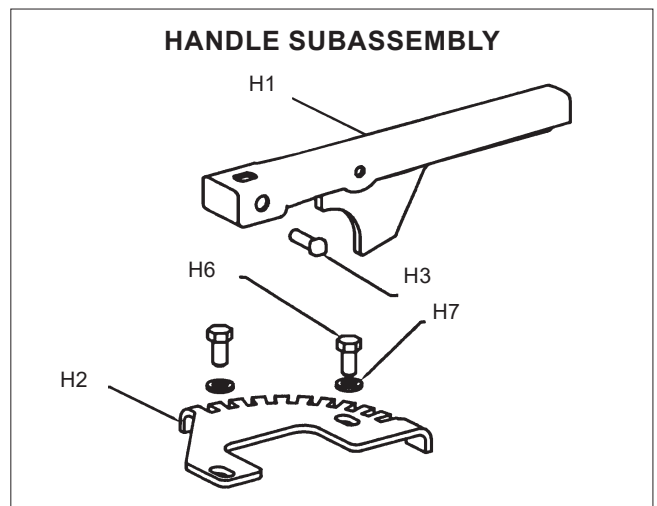

Figure 11.
2. 2-1/2" thru 6" (DN 65 thru 150) Valves - To ensure proper handle/shaft engagement, the handle must be mounted on the shaft such that it rests on the bottom of the shaft blade (**See Figure 11**).